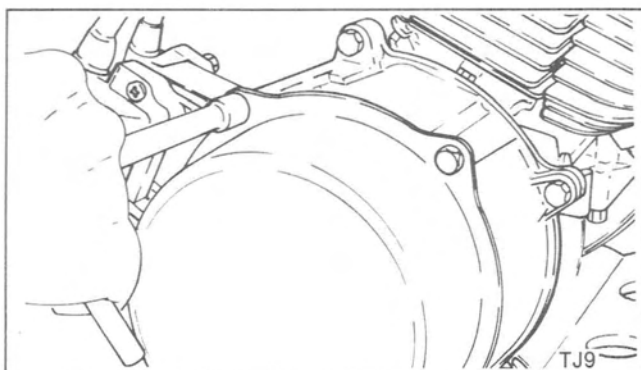

Figure 9
1. The starter pulley assembly is held to the flywheel magnet. (Figure 9)